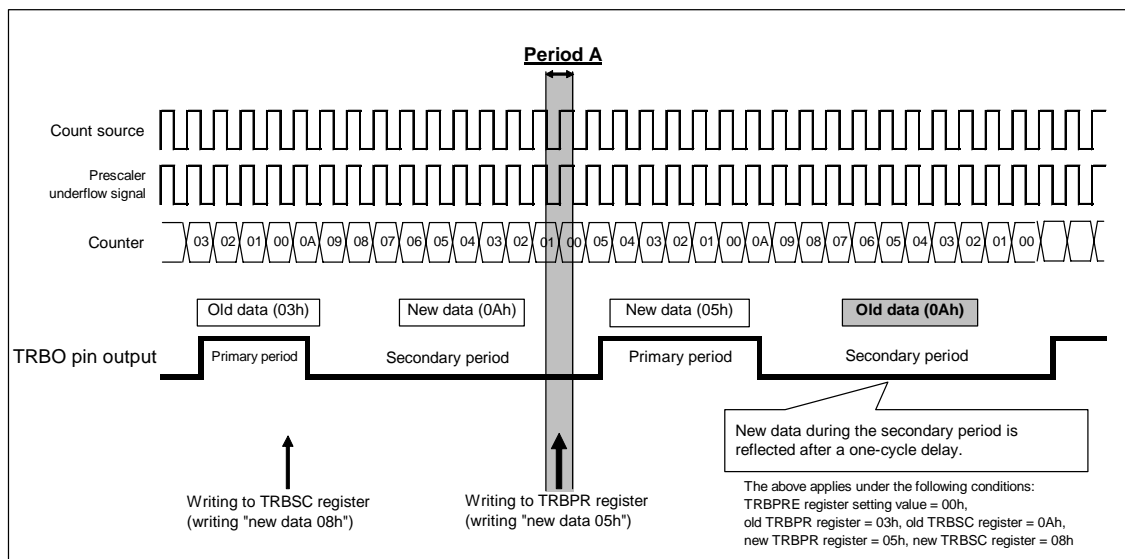

Figure 1 TRBPR Register Writing Timing When Symptom Occurs
- (1) When the timer RB count start bit (TSTART bit) is set to 1
- (2) When the timer RB prescaler (TBPRES register) is set to 00h
- (3) When writing to the timer RB primary register (TRBPR register) is completed during interval A shown in Figure 1
If writing to the TRBPR register is completed during interval A (one cycle of the count source) just before the end of the second period in Figure 1, a new TRBPR register setting value is reflected during the primary period in the next cycle, but a new TRBSC register setting value is not reflected during the secondary period. A new TRBSC register setting value is reflected after a one-cycle delay.